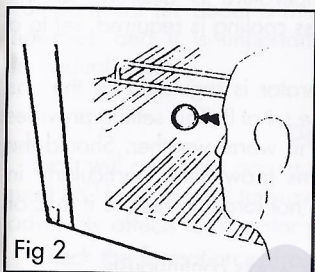

Fig 2
- 3) Depress and turn on the gas control safety device knob (4) to the gas position D.
- 4) Depress the gas control safety device knob (4) and hold it down while depressing the piezo-electric igniter button rapidly 3 or 4 times in quick succession.
- 5) Check the flame viewer to see whether the flame is alight (see Fig 2).
- 7) Release the safety device control and check to see that the flame is alight. (See Fig 2).
- 8) To terminate gas operation, turn knob (4) to '0'.